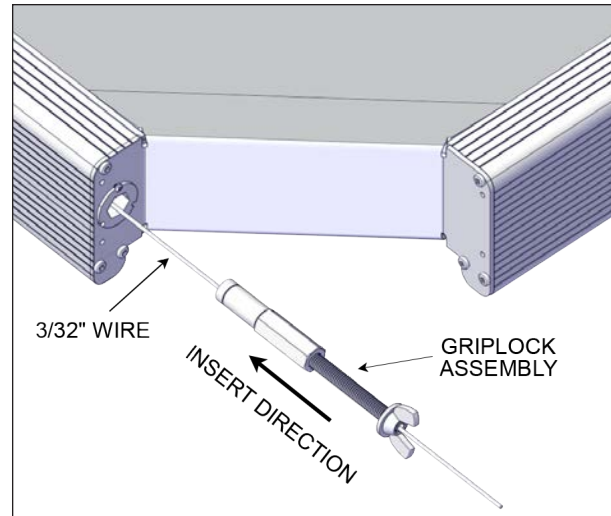

FIGURE 59: GRIPLOCK INSTALLATION
7. Run the wire through the Griplock, see Figure 59.